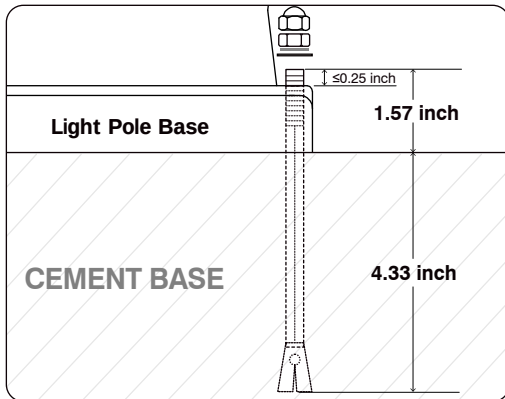

FIG.2
2. Install the expansion screws into the corresponding holes, leaving about 1.57" (45mm). (FIG.2)
5. Please note that after the **Light Pole Base** is placed in the **CEMENT BASE**, the height from the **Anchor Bolts** to the **Light Pole Base** should not exceed 0.25" (6.5mm) , as illustrated in FIG.2.